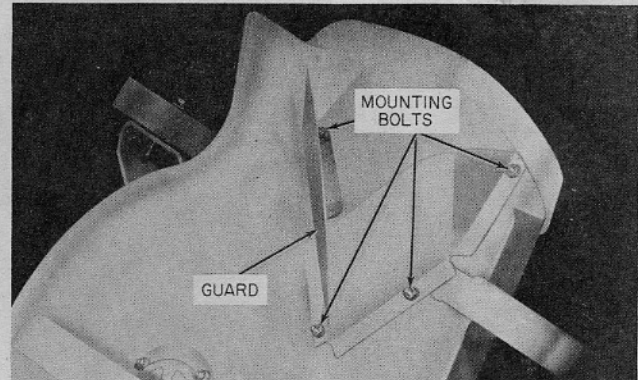

Fig. 2
3. Lay the foot guard on top of the mower deck so its holes line up with the holes drilled in Step 2. Insert 1/4-20 bolts from the top side and position the V-baffle on the underside of the deck so that these bolts pass through its end holes as shown in Fig. 2. Secure with lockwashers and nuts.